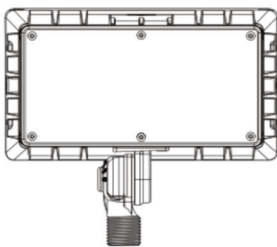

Fig. 3
- 2.) Screw the mount into the 1/2" NPT conduit. (See Fig. 3)